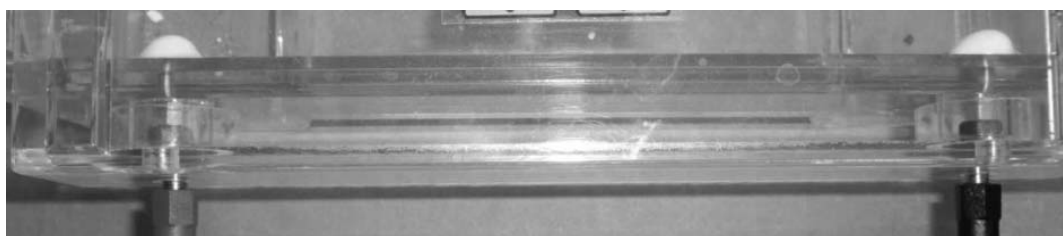

Figure 2-2. Allow the Leads to Align with Banana Plugs
2. Install the lid, allowing the loosened power supply leads to self-align onto the banana plugs, as shown in Figure 2-2.